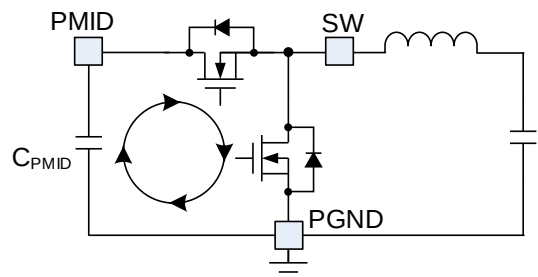

Figure 7: High-Frequency Current Path
PCB layout is important to meet specified noise, efficiency and stability requirements. For the best results, refer to Figure 7 and follow the guidelines below:
3. Minimize the high-frequency current path loop between the PMID capacitor and the buck converter power MOSFETs (PMID pin to capacitor, PGND to capacitor) (see Figure 7).